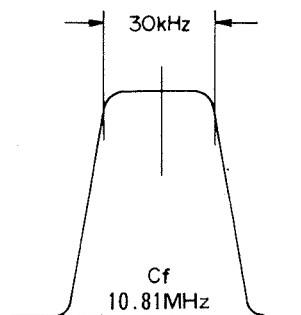

Figure 1
- Adjust the cores of  $T_{1005}$ ,  $T_{1006}$  and  $T_{1015}$  until the scope pattern illustrated in Figure 1 is obtained.